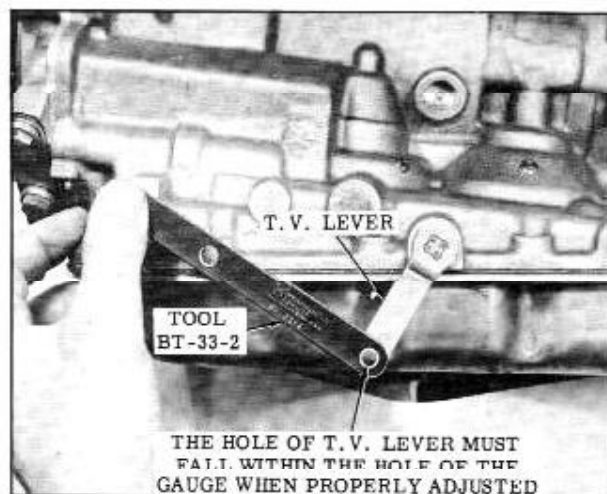

Fig. 3-127 Checking T.V. Lever
2. Disconnect lower T.V. rod from T.V. lever and position gauge BT-33-2 as shown in Fig. 3-127. The hole of the T.V. lever must be